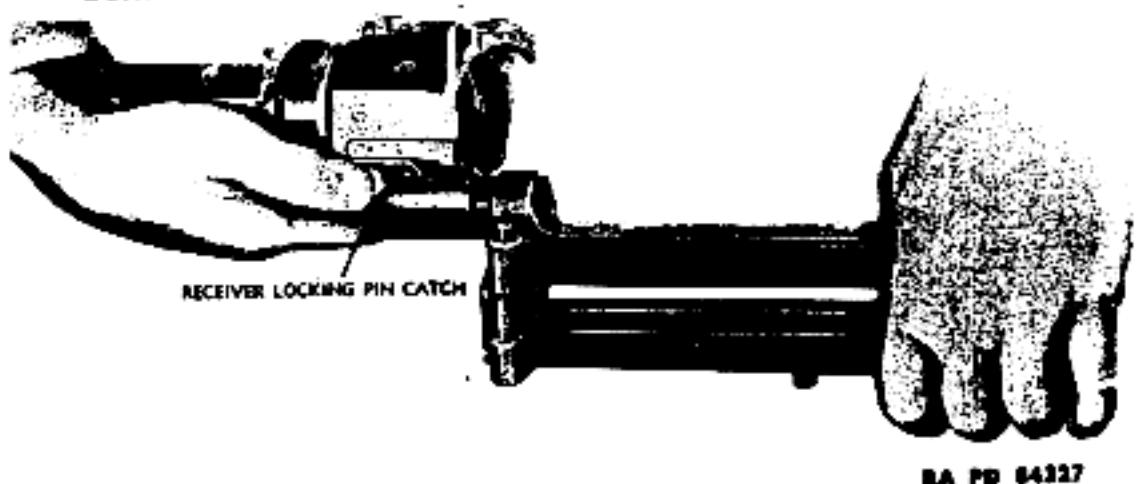

Figure 52 — Removal of Barrel Casing From Receiver
f. Removal of Barrel Casing. Depress the receiver locking pin catch and remove the barrel casing from the receiver (fig. 52).